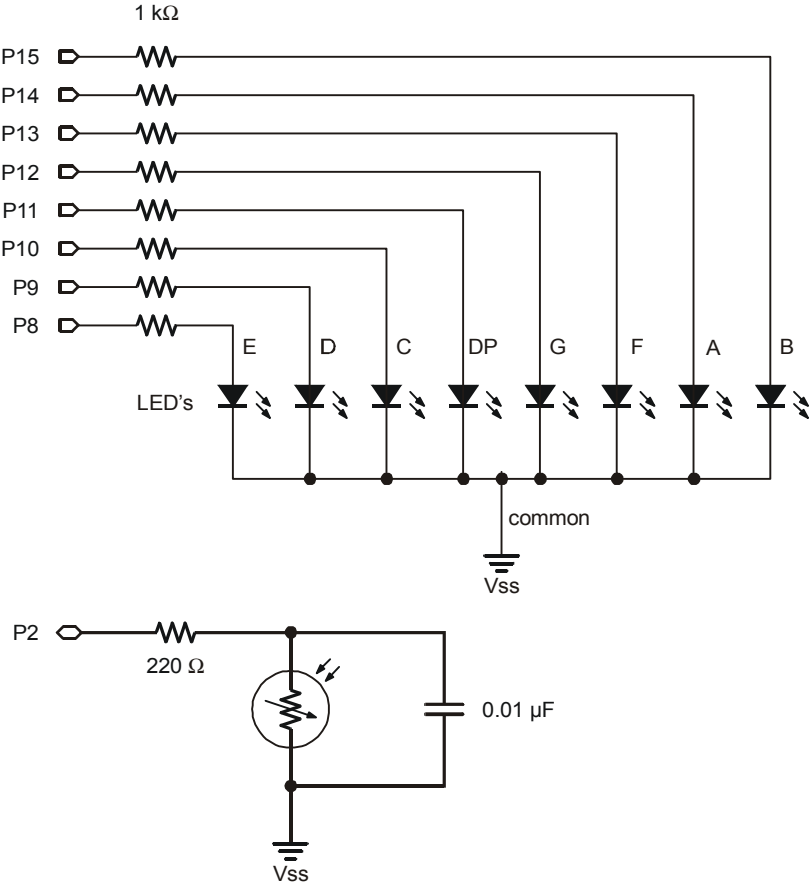
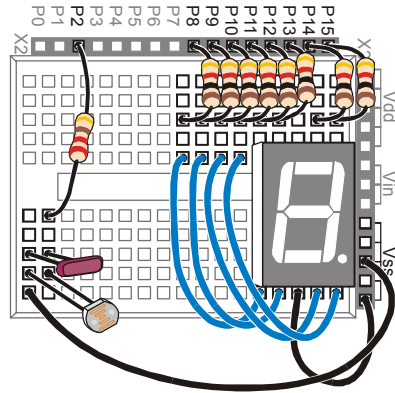

Figure 7-9
Figure 7-10
Figure 7-9 shows the 7-segment LED display and photoresistor circuit schematics that will be used to make the light meter, and Figure 7-10 shows a wiring diagram of the circuit. The photoresistor circuit is the same one you have been using in the last two activities, and the 7-segment LED display circuit is the one that was controlled by the BASIC Stamp in Chapter #6.
for Figure 7-9
- ✓ Build the circuit shown in Figure 7-9 and Figure 7-10.